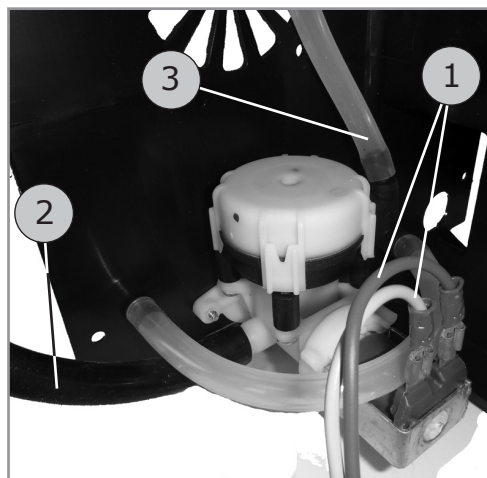
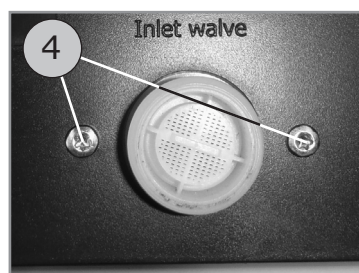

Figure 40
Figure 41
3. Loosen the inlet valve's cables (1, figure 40).
4. Loosen the hose for filling the water heater tank (2).
5. Loosen the hose for overfill protection/drainage (3).
6. Remove the valve by loosening its two screws (4, figure 41) from the back side of the machine.